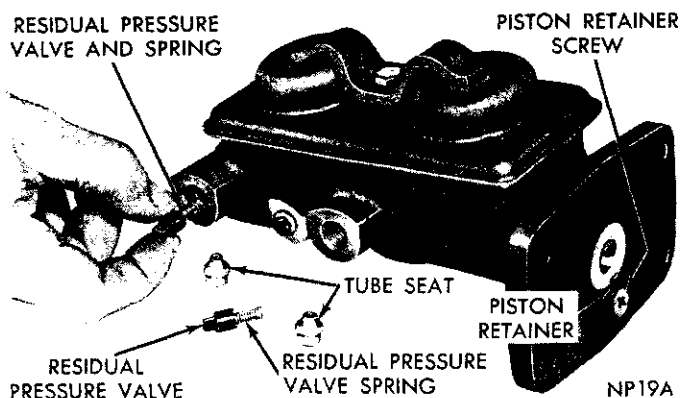

Fig. 3—Removing or Installing Residual Pressure Valve
(1) Remove cover retaining bolt, and clamp then remove cover and gasket. Empty brake fluid from reservoirs.
(2) Loosen piston retainer screw then press in on rear piston and flip retainer down to release rear piston assembly (Fig. 3). Slide rear piston assembly out of cylinder bore.
(3) Remove screw and gasket that retains front piston; then, upending master cylinder, tamp (open end down) on bench to remove front piston. If front piston sticks in bore of cylinder, use air pressure to force piston out of cylinder. New cups must be installed at reassembly if air pressure is used.
(7) Remove two residual pressure valves and springs (Fig. 3).